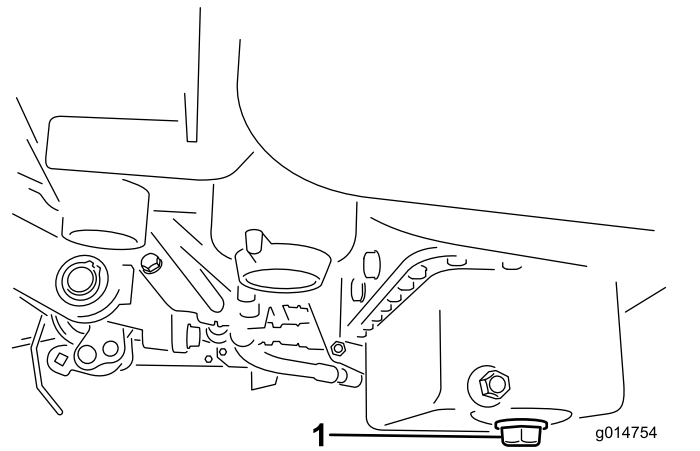

Figure 32
1. Remove the drain plug and let oil flow into a drain pan. When the oil stops, install the drain plug (Figure 32).